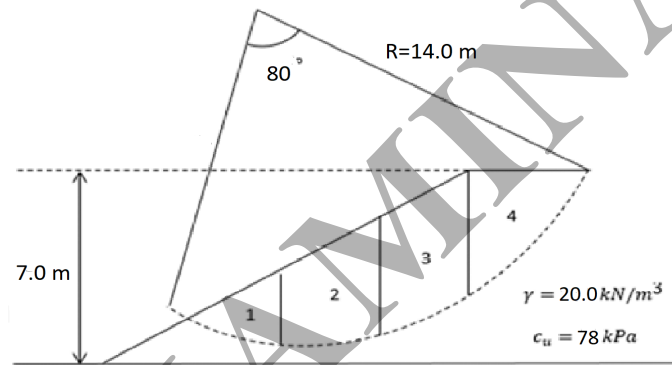

Figure Q2
- b) An embankment made from clay is to be constructed upon the ground surface (See Figure Q2). The completed embankment can be assumed to be homogenous and thus will possess constant density and constant shear strength throughout its mass. Determine the factor of safety in the short term (undrained state). Area and angle of base for each slice is calculated in Table 1 below.